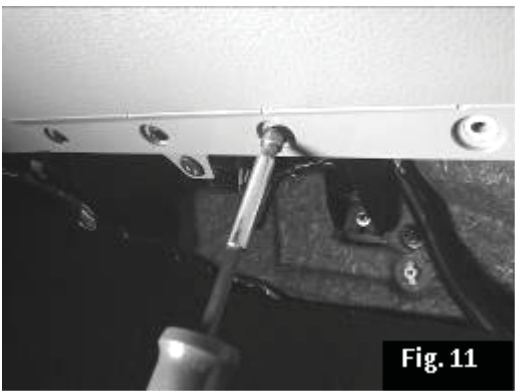

Fig. 11
16. Remove the four screws along the bottom of the glove compartment. Fig. 11